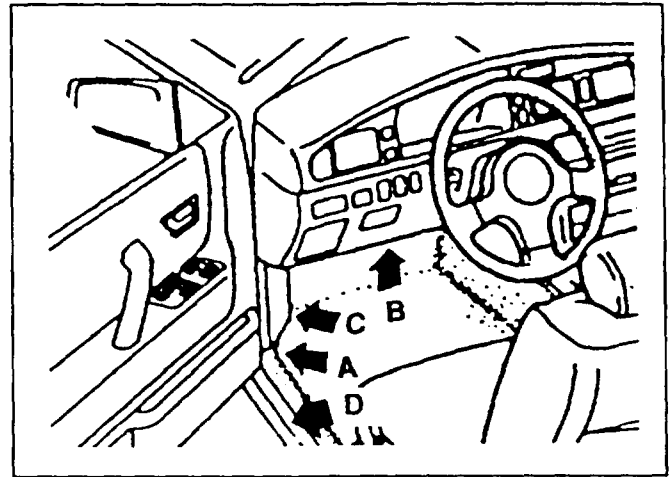

Figure 12: Possible Water Leak Areas
6. Note which area the water enters the vehicle. Refer to the appropriate location's repair procedure. **Figure 12.**